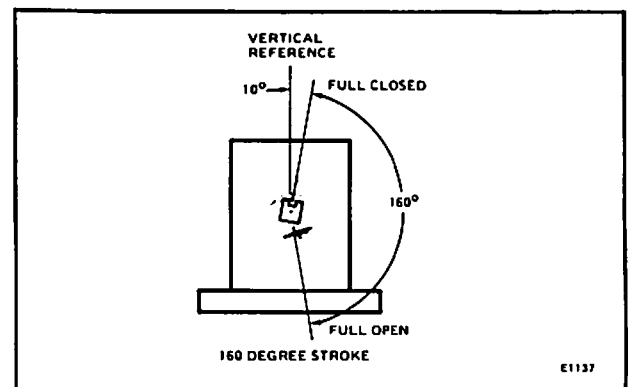

FIG. 2—LIMITS OF MOTOR SHAFT ROTATION VIEWED FROM POWER END.
All M945 Modutrol Motors (except the M945F and G) are shipped in the *closed* position. The closed position is the limit of counterclockwise rotation as viewed from the power end of the motor (Fig. 2).
1. Attach the valve or damper linkage to the motor shaft so the motor crank arm travels through its full range while the drive mechanism moves through only its required maximum distance (Fig. 2).